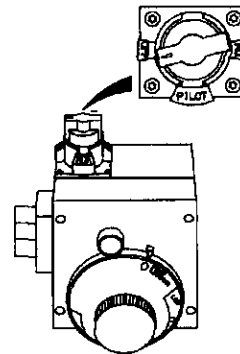
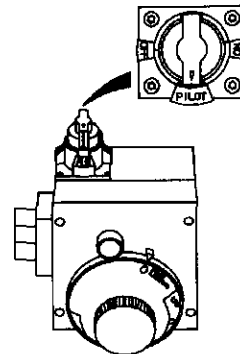

Figure 6
Figure 7
4. Turn gas control knob clockwise (↻) to "OFF" position. Knob cannot be turned from "PILOT" to "OFF" unless knob is depressed slightly. **DO NOT FORCE.** (Figure 6)
5. Wait five (5) minutes to clear out any gas. If you then smell gas, STOP! Follow "B" in the safety information above on this label. If you don't smell gas, go to the next step.
8. If you don't smell gas, turn knob on gas control counter clockwise (↺) to "PILOT" position. (Figure 7)
9. Push in control knob all the way and hold down. Immediately light the pilot with a match. Continue to hold control knob in for about one (1) minute after the pilot is lit. Release knob and it will pop back up. Pilot should remain lit. If it goes out, repeat steps 3 through 8.
- If the pilot will not stay lit after several tries, depress and turn the gas control knob clockwise (↻) to "OFF" and call your service technician or gas supplier. (Figure 6)